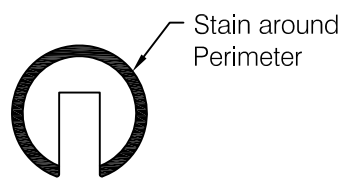

fig 7
- Step 12:** Layout wooden handrail. Ensure wood will span all aluminum retainer splices. Color the perimeter of all unfinished ends of the handrail using a stain pen or touch-up stain, see **fig 7**.